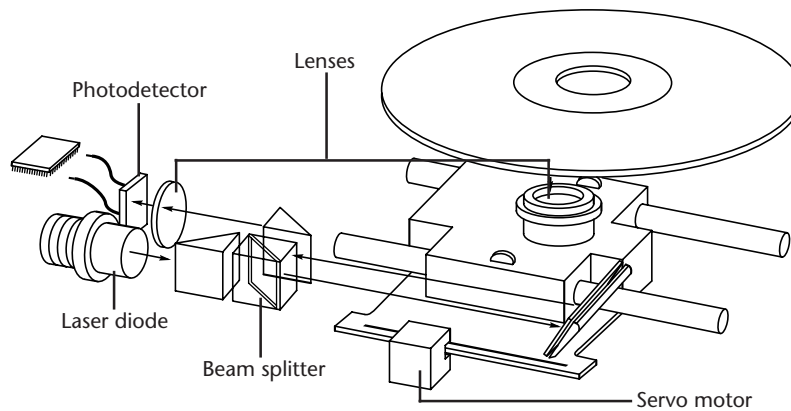

Fig. 15.1
1. The laser diode emits a low-energy beam toward a reflecting mirror (see fig. 15.1).